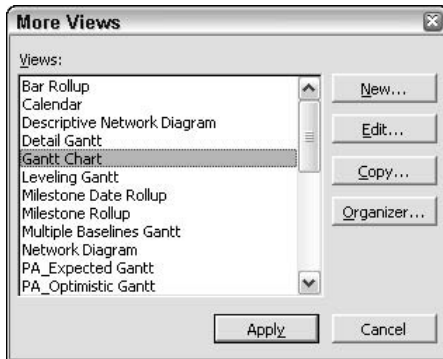
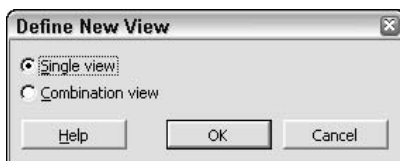

Figure 7-8: A wide selection of built-in views meets most informational needs.
Figure 7-9: A simple choice awaits you in the Define New View dialog box: a single or combination view.
You can select a view from the View bar, or you can choose View⇨More Views. Project gives you dozens of alternative views from which to select, as shown in Figure 7-8. When you create a new view, you can include it on the View bar or make it available in the More Views dialog box only.
2. Click the New button in the More Views dialog box (shown in Figure 7-8). The Define New View dialog box appears, as shown in Figure 7-9.